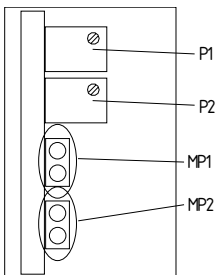

Fig. 3
- Remove the cover of the enclosure to set up the safety-monitoring module (Fig. 3).